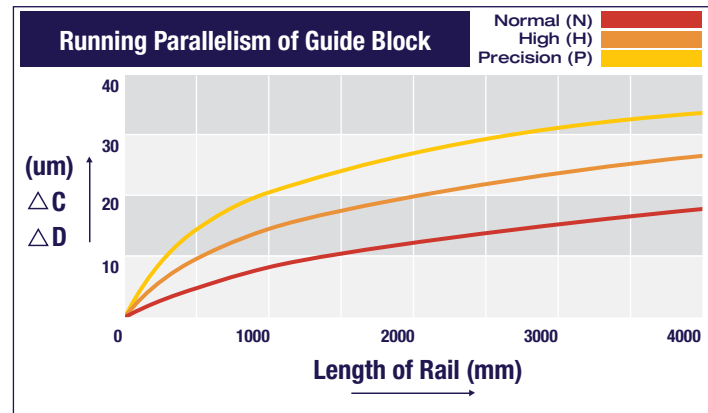

Fig. 11B Running Parallelism of Guide Block
9 Inspect the parallelism and height variation of the auxiliary rail relative to the master rail by using an indicator or other appropriate means. The specifications for running parallelism and height variation limits are stated on *page 11, Figure 11B*. If necessary, the auxiliary rail should be gently re-positioned relative to the master rail within the noted variation limits.
- 7** Inspect the parallelism and height variation of the auxiliary rail relative to the master rail by using an indicator or other appropriate means. The specifications for running parallelism and height variation limits are stated on *page 11, Figure 11B*. If necessary, the auxiliary rail should be gently repositioned relative to the master rail within the noted variation limits.